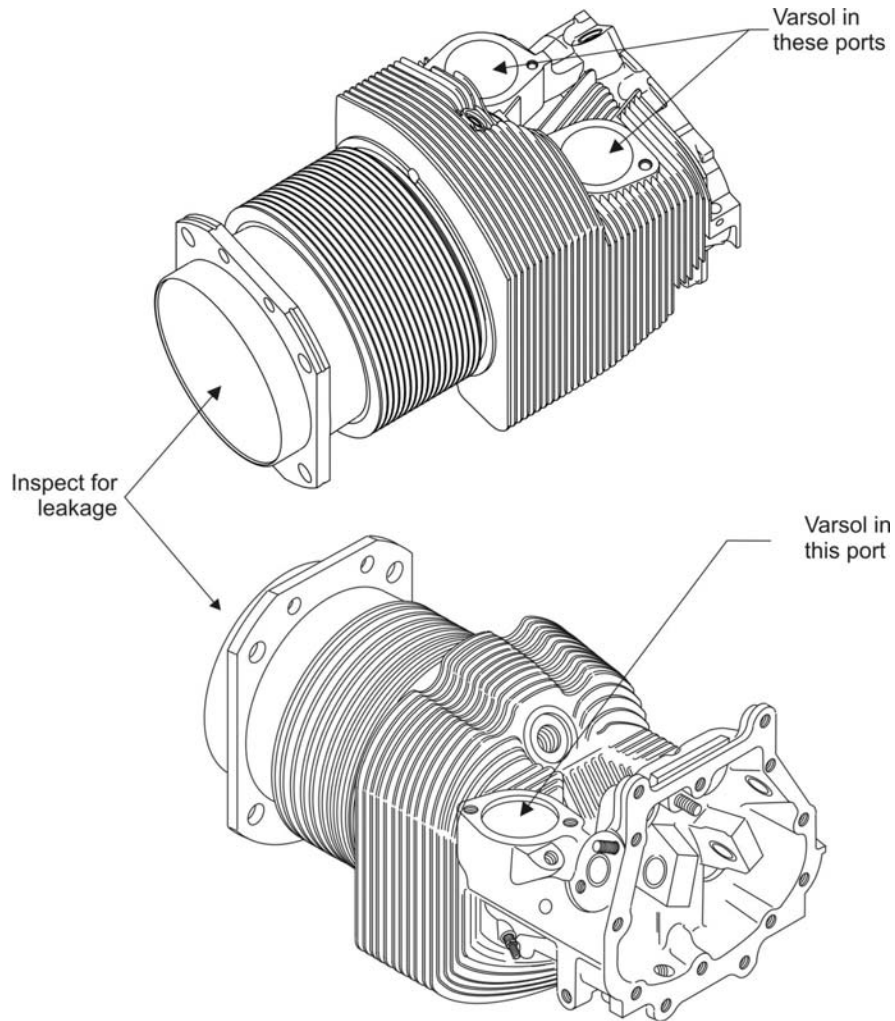

Figure 1
1. After the intake and exhaust valves are installed on the engine cylinder, put the cylinder assembly on a table with the open end of the barrel toward the operator. If both valves are installed in the same direction (as shown in Figure 1), put the cylinder in the orientation with the open ports of the valve facing upward. For cylinders with intake and exhaust valves installed in opposite directions, you will need to do the leak test one valve at a time and change the cylinder position to let the other valve face upward to do the leak test on the other valve.
3. Fill each port on the valve with Varsol or equivalent to cover the valve face (Figure1).
4. Look for valve leakage through the cylinder barrel into the combustion chamber area (Figure 1).